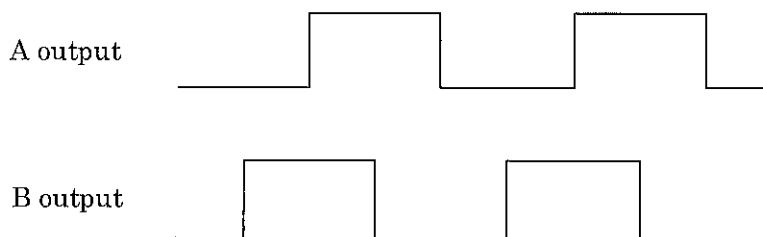

Fig.1 Forward current vs. ambient temperature
*1 The derating factors of absolute maximum ratings due to ambient temperature are shown in Fig. 1, 2.